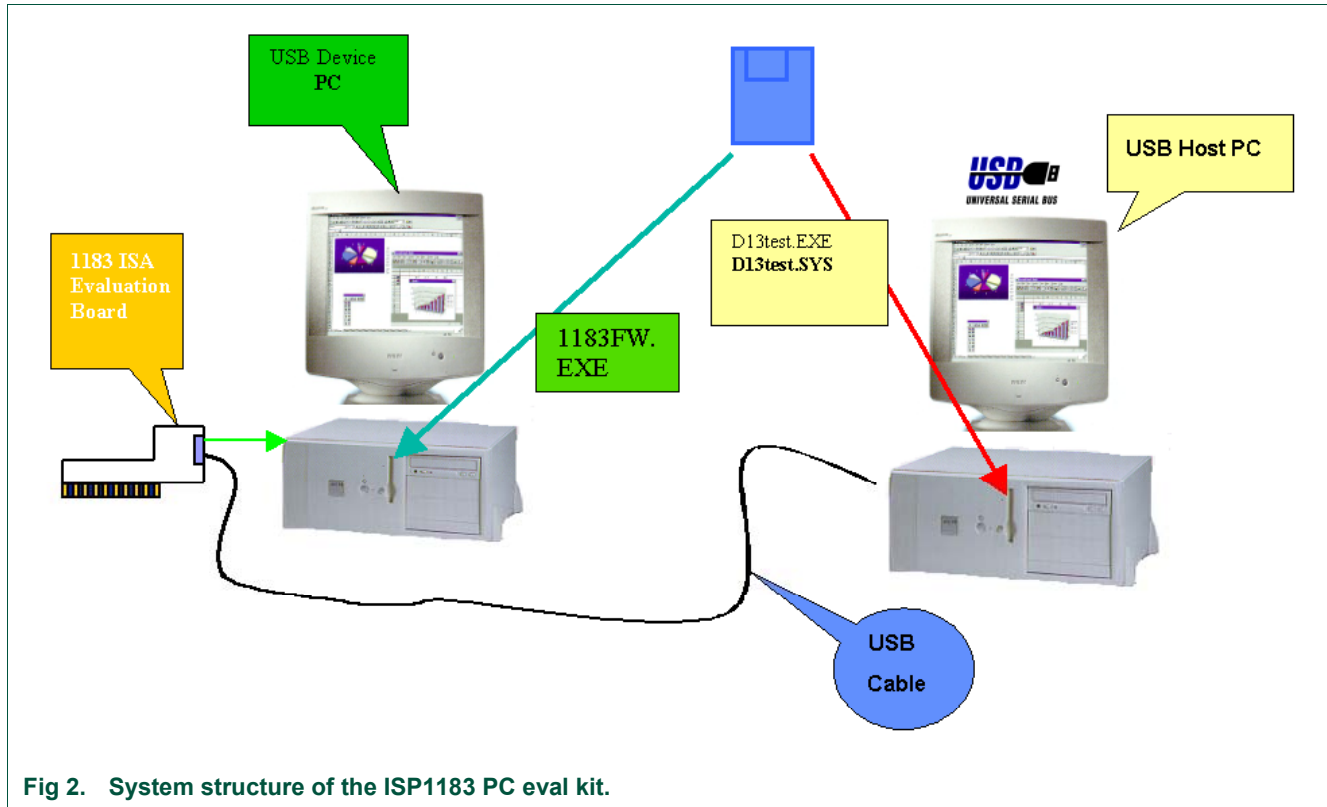

Fig 2. System structure of the ISP1183 PC eval kit.
- ISP1183 eval board, as shown in Fig 2.